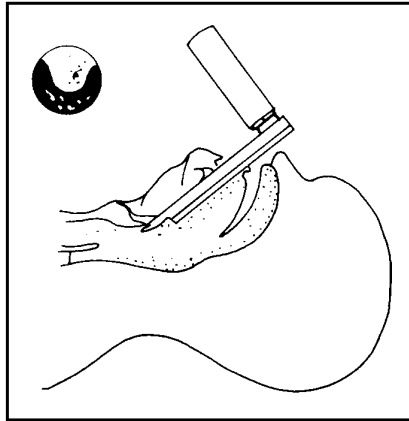

Figure 3-65
- f. Advance the blade a short distance to observe the epiglottis. (See Figure 3-65.)